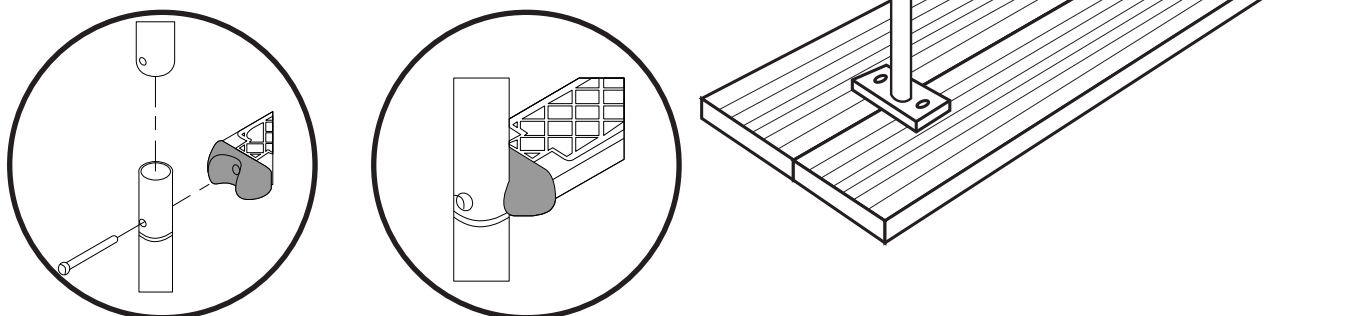

Fig. 23/Abb. 23/Afb. 23
- EN A.- Slot in the upper (1) and lower (10) handrails, fasten them with the steps (9) and the steps to the handrails using screws (11), nuts (8) and washers (7). (Fig.23)
B.- Assemble the end pieces (12) of the handrail so that the ladder cannot damage the pool.